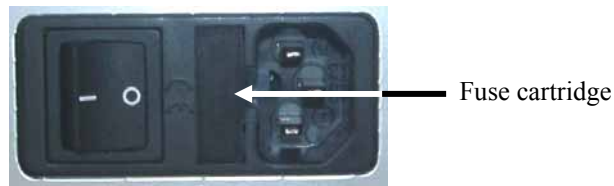

Fig. 55: Fuse cartridge
- Remove the fuse cartridge, using a small screwdriver (→ Fig. 55).